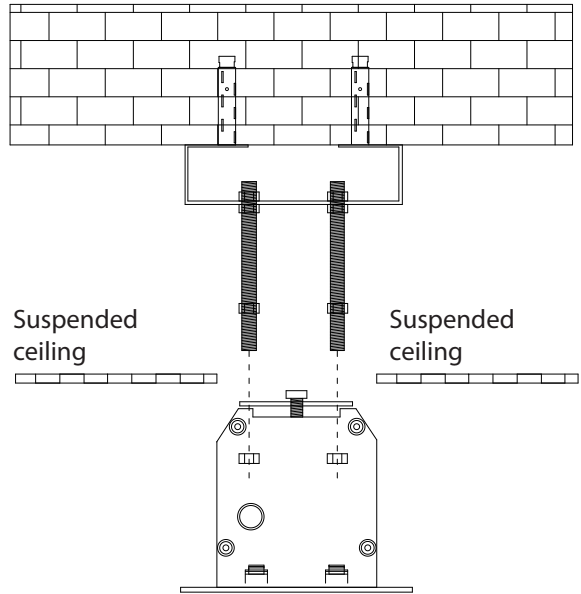

Figure 4
4. Insert the housing into the ceiling cut-out. Please ensure that the four threaded rods are inserted into the holes of the mounting brackets. Tighten the nuts on each threaded rod to secure the screen (see fig 4).
Wireless operation (fig 4) (Optional)
(Fig. 4)